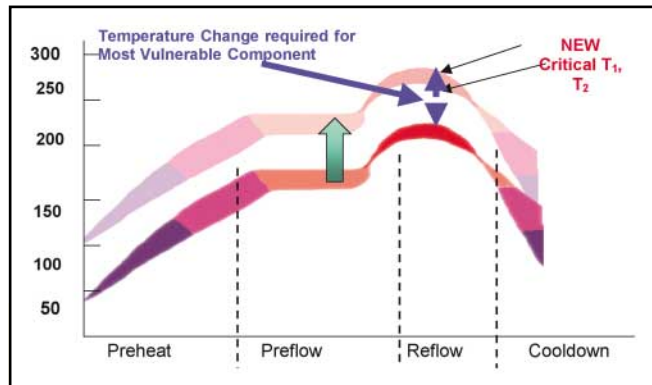

Figure 2. Shows the effects of an approximate 30-50°C shift depicting the new temperatures required for lead (Pb) free soldering.
*Figure 2* shows the effects of an approximate 30-50°C shift depicting the new temperatures required for lead (Pb) free soldering. The most significant thing to note is the upward temperature change required of the most convert vulnerable component, or the new critical T1 and T2 points.